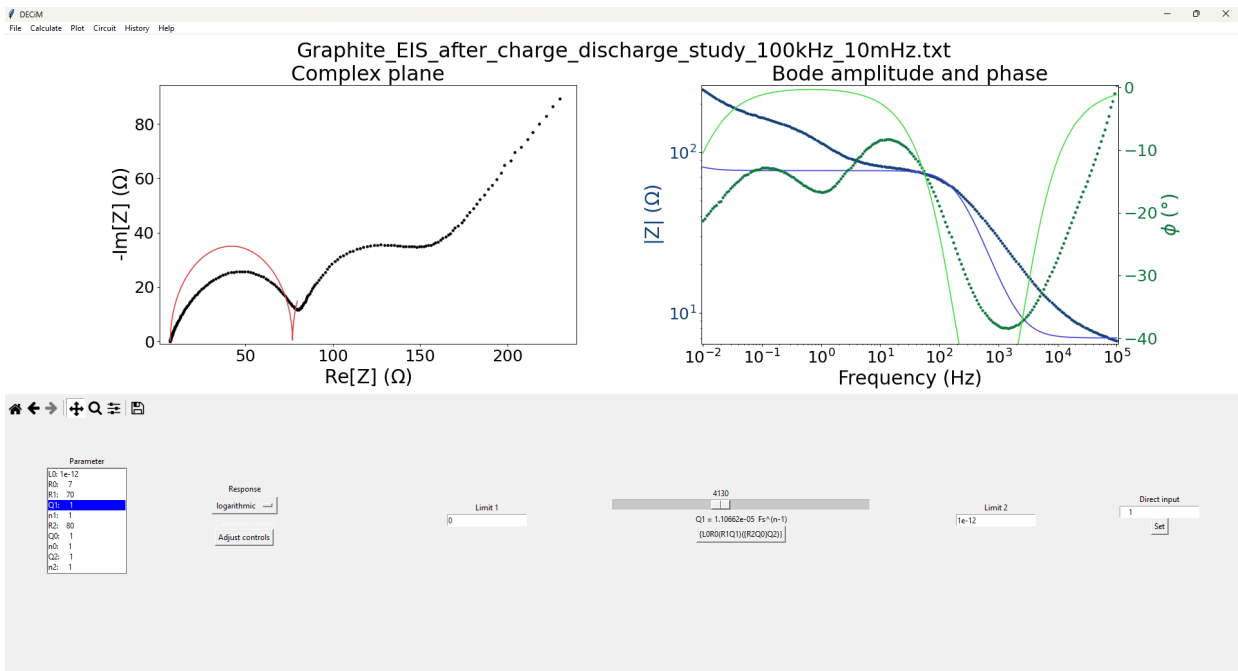

Figure 24: The result of the first few manual fitting steps for the Li|C half-cell.
- Now, the constant phase elements' parameters can be adjusted. First, adjust  $Q_1$  by selecting it, pressing **Adjust controls** and moving the slider to the right. The high-frequency semicircle should now be fitted to some extent by the red line and the first shoulder of  $|Z|$  should be touched by the model curve. The result should look like Figure 24, with  $Q_1 = 1.1 \times 10^{-5}\ \text{F}$ .